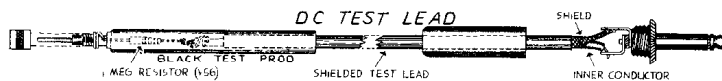

Fig. 13
- (1) DC test lead. The DC test lead is made by connecting the phone plug (V41) on one end of the shielded test lead (V47). On the other end goes a small 1 megohm resistor (V56), which is then slipped inside the black test prod. See Figure 13.